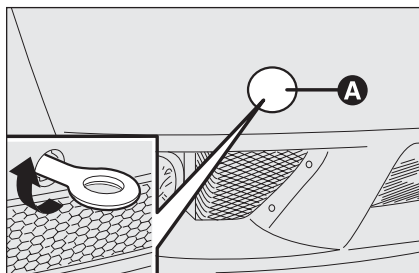

fig. 56
- remove the snap-fitted plug **A-fig. 56** from the front bumper. If using the flat blade screwdriver provided as standard, protect its tip with a soft cloth to prevent damaging the car.